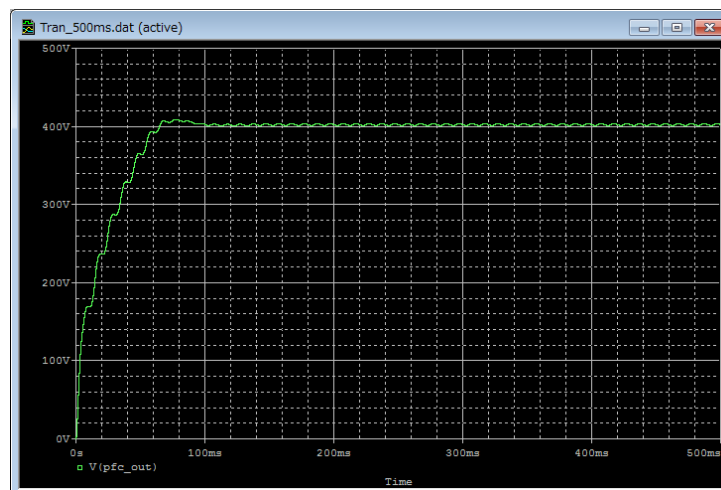

Fig. 5.7 Simulation waveform view (Example: Output voltage waveform)
- (3) Click **OK**. Then, the selected waveform appears as shown in Fig. 5.7.